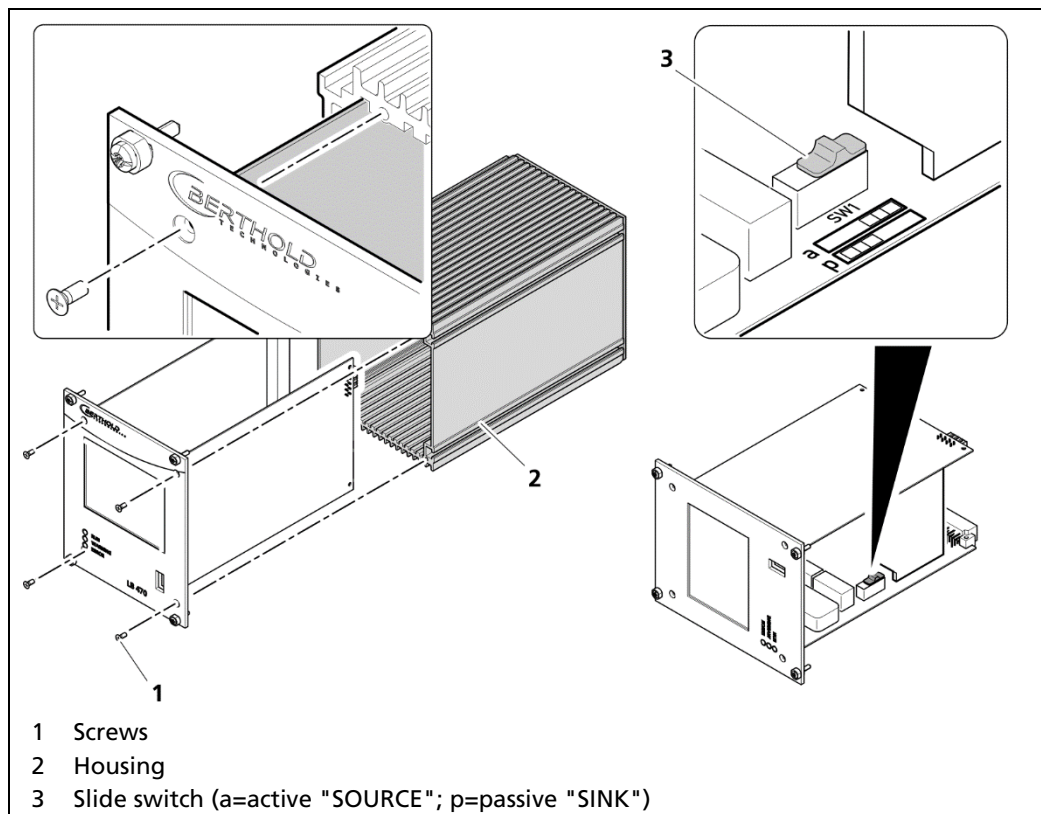

Fig. 23 Switching of the current output
1. Loosen the four sunken screws on the front side of the EVU (Fig. 23, item 1).
2. Pull out the housing (Fig. 23, item 2) carefully.
3. Slide the switch (Fig. 23, item 3) to position **a** for "active" (SOURCE), to position **p** for "passive" (SINK).
5. Screw the front panel to the housing (Fig. 23, item 2) with the four screws (Fig. 23, item 1).